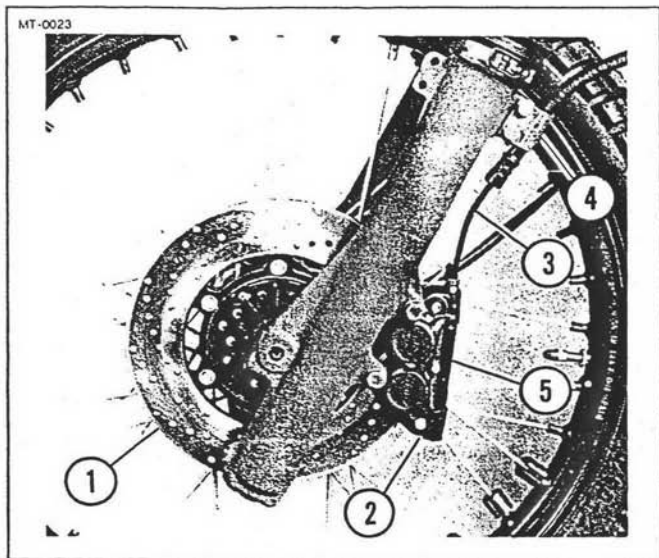
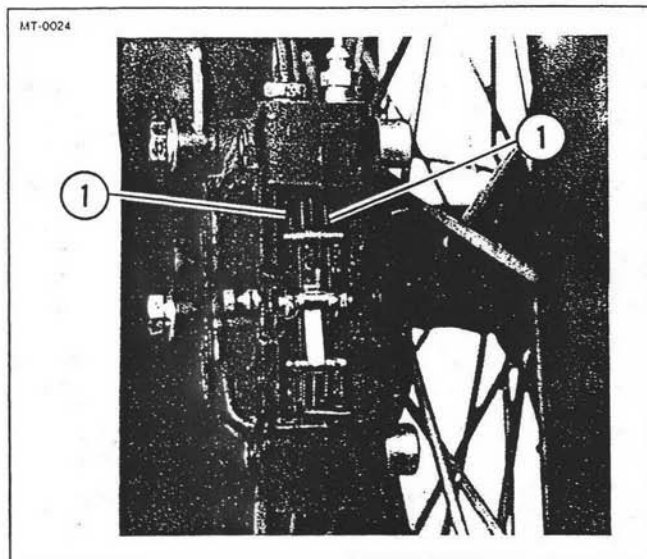

Figure 2-29. Front Brake Assembly
Figure 2-30. Checking Front Brake Pads
2. See Figure 2-29. Check disc (1) for scoring, distortion, warpage, heat checking, cracks, or other damage. Check for leakage from caliper (2) and brake line (3). Be sure brake line is secured from movement by clamp (4).
3. See Figure 2-29. Remove brake pad cover (5). See Figure 2-30. Check brake pads (1) for thickness. If either pad is less than 1.6 mm (1/16 in.) thick or if they are wearing unevenly, refer to *Service Manual* for repair procedure. Install brake pad cover.